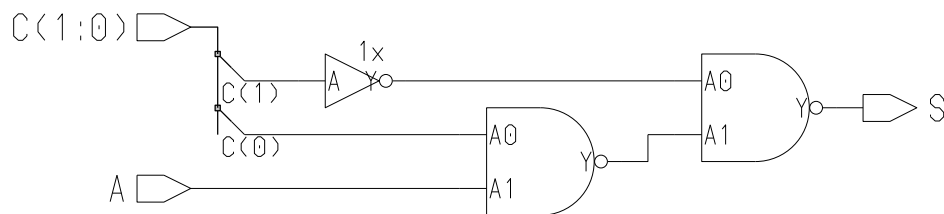

Figure 1: The output  $s$  of the 1-bit division-by-three component.
- The sub-circuit generating the output  $s$  can be similar to that given in Figure 1. Note that the carry-in signals  $c(1:0)$  form a 2-bit bus.
- Complete the first part of the schematic to look as the one in Figure 1. Some helpful points are as follows: